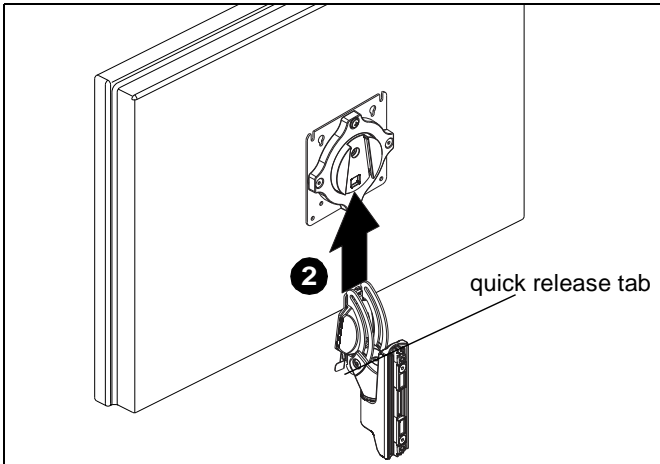

Figure 8
**WARNING:** Only remove display from mount when the display can be lifted up from the mount! DO NOT remove display unless the display is in the upright position! (See Figure 8)
2. Remove quick release faceplate from mount by pulling quick release lever and sliding faceplate off mount. (See Figure 8)